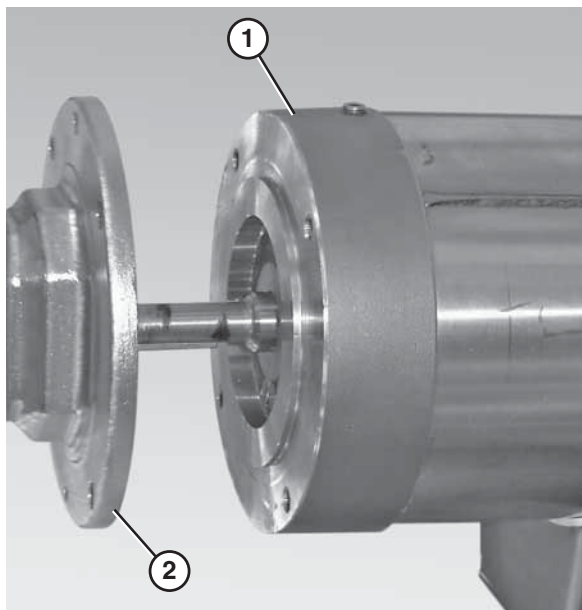

Figure 28
2. Detach the motor (Figure 28, item 1) from the gear reducer (Figure 28, item 2) and set the motor aside.